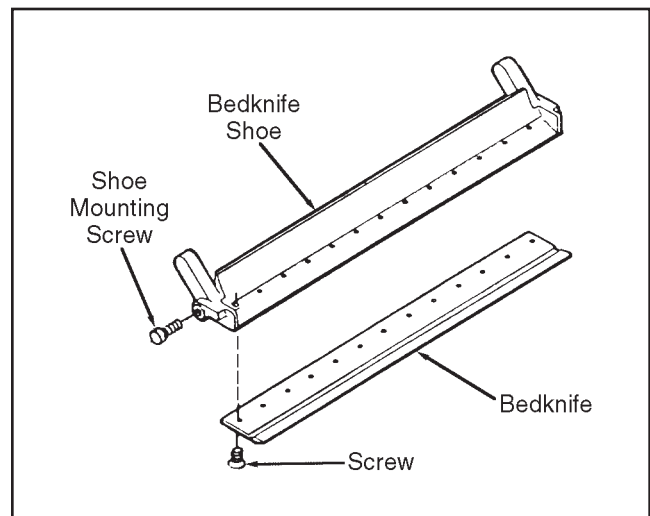

Figure 12F-2. Bedknife Removal and Replacement
2. Refer to Figure 12F-3 (Sheet 1 of 2). If not previously removed, remove the throw shield.